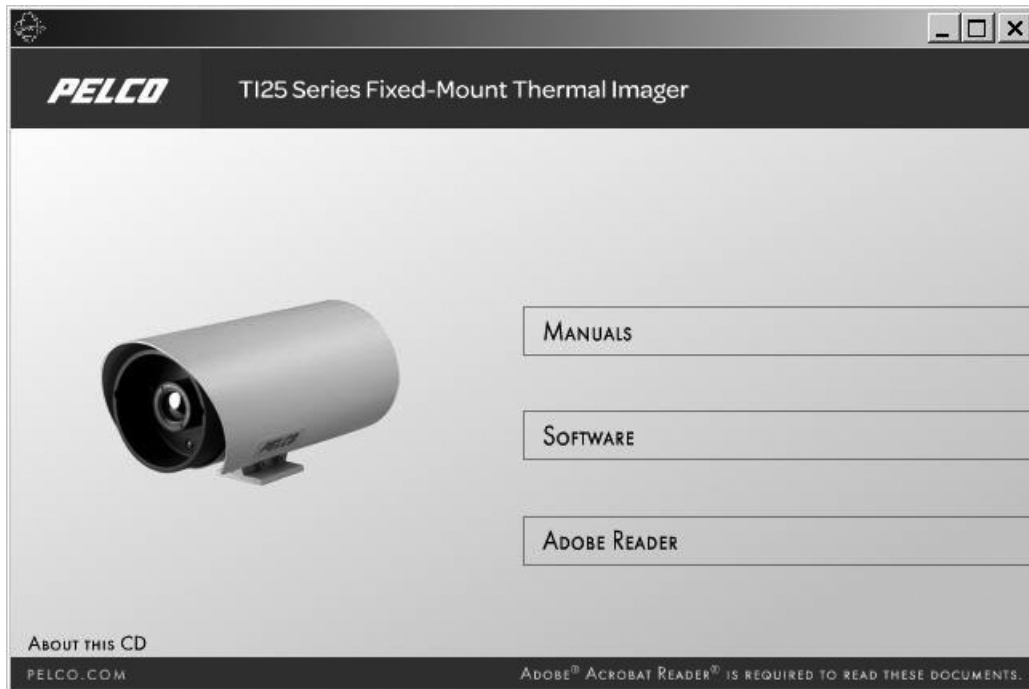

Figure 2. TI2535 and TI2550 Series Resource Disc GUI
2. Click the Software button (refer to Figure 2).